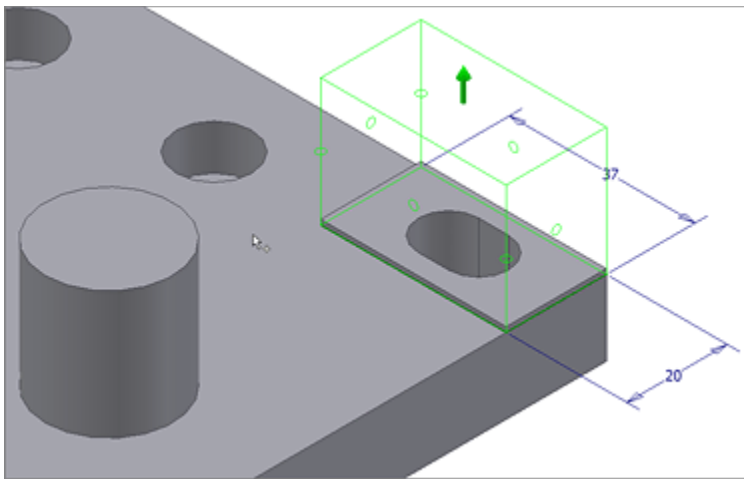

Figure 4. Preview results from 3D Grip edit.
3. Select a face/plane to which you want the chosen plane to be flush. The software creates a preview of the results before you commit to the change (figure 4).